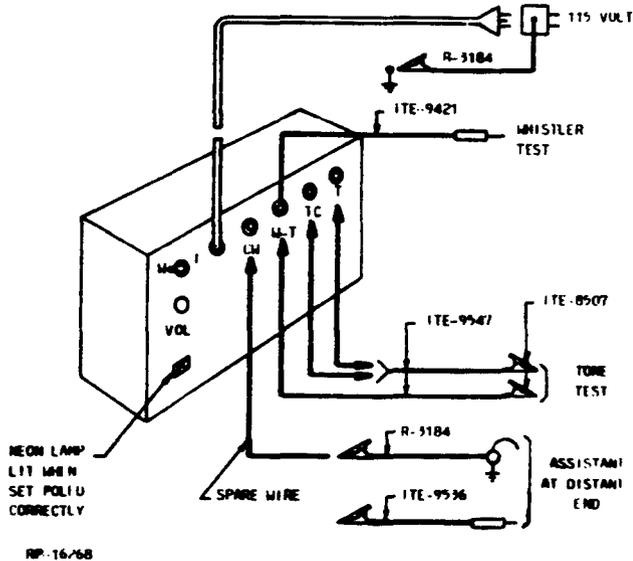

FIG. 2 WHISTLER TEST SET CONNECTION (PAR. 4.272)
4.272 The assistant can obtain an OK signal by connecting a spare wire in the cable to the ITE-4261A (CW) Jack and connecting the other end of the spare wire through a test receiver to ground. See FIG. 2.